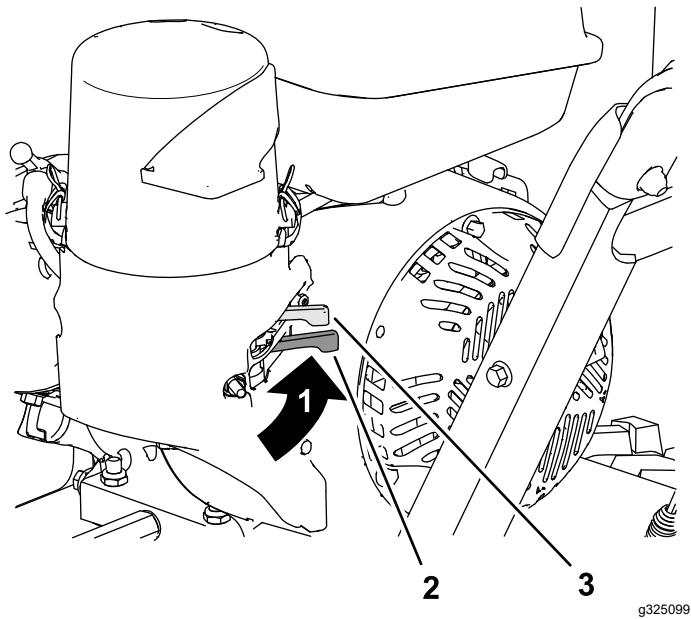

Figure 11
Move the fuel-shutoff valve located below the choke, to the right to turn on fuel (Figure 11).
- 2. On the rear, left side of the engine, move the choke lever to the left to the ON position. On a warm engine, leave the choke in the OFF position (Figure 11).
- 6. Allow the engine to warm up for several minutes, then move the choke toward the OFF position (Figure 11).
- Use the fuel-shutoff valve to shut off fuel when you will not use the machine for a few days, park the machine inside a building, or transport the machine to and from the job site (Figure 11).